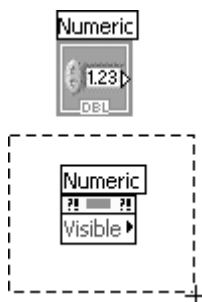

Figure 15.79
- Linked **Property** nodes (those that are implicitly linked to controls on the front panel and do not have a reference input or output) that are contained within the selection of code, will be replaced by an unlinked Property Node. To maintain the connection between the control and the **Property** node, a **VI Server Reference** to the control will appear on the block diagram and the reference will be passed into the new subVI (and subsequently passed to the **Property** node) via a control reference data type. Figures 15.79 and 15.80 show the before and after state of this operation.